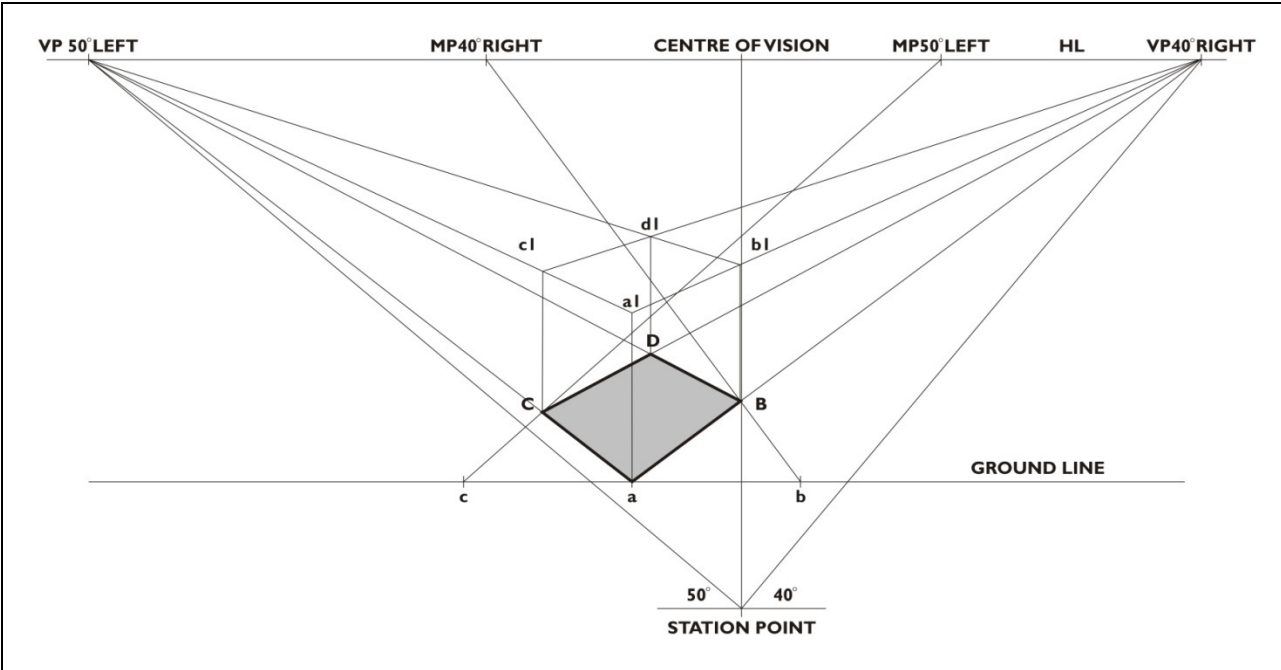

Figure 3.9 Two-point perspective cube height creation
4. From point c1 draw a line vanishing line to VP40° Right and from b1 to VP50° Left. Refer to Figure 3.9.